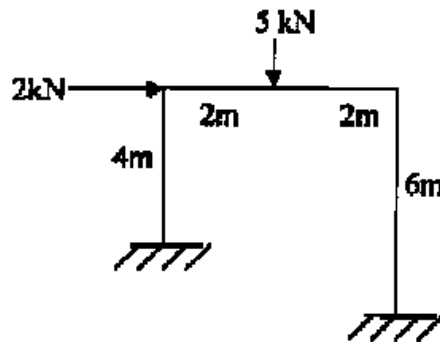

Fig.1
2. Find the fully plastic moment required for the frame shown in Fig.1 if all the members have same value of M_p .